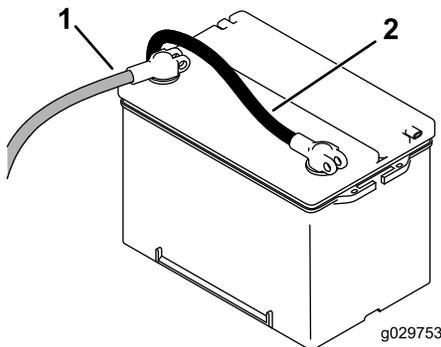

Figure 50
- To de-energize the machine electrically, rotate the battery-disconnect switch counterclockwise to the OFF position (Figure 50).
6. Install the positive cable (red) to the positive (+) terminal and then the negative cable (black) to the negative (-) terminal of the battery (Figure 50).